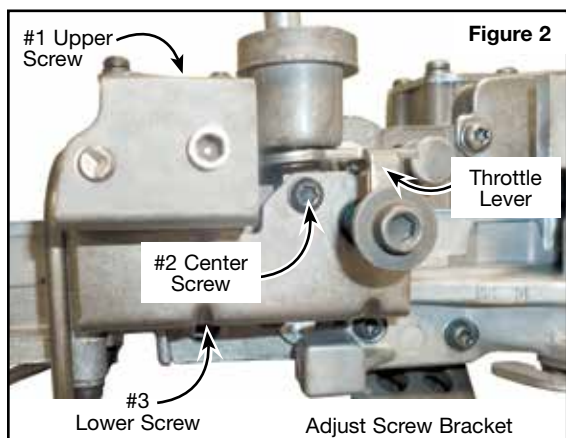

Figure 2
- Remove the center screw from the adjusting screw bracket. Temporarily remove one of the long screws holding the three valve body castings together and install it in place of the center screw (**Figure 2**). This will help to hold the bracket in place when removing the upper and lower screws. Remove the upper and lower bracket screws while holding the adjusting screw bracket. Remove the center screw. Save the OE switch valve spring, line pressure screw and adjusting bracket for reassembly. Discard the OE pressure regulator spring.